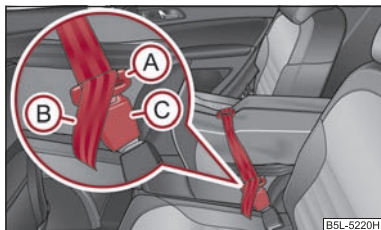

Fig. 100 Securing the removeable through-loading bag
- Insert the lock tongues (A ⇒ fig. 100 in the belt locks of the rear middle seat belt (C), first of all on the one side and then on the other side.
- Place the securing belt in the middle of the skis between the heel and the tip of the bindings and pull the securing belt tight at the free end of the belt (B).